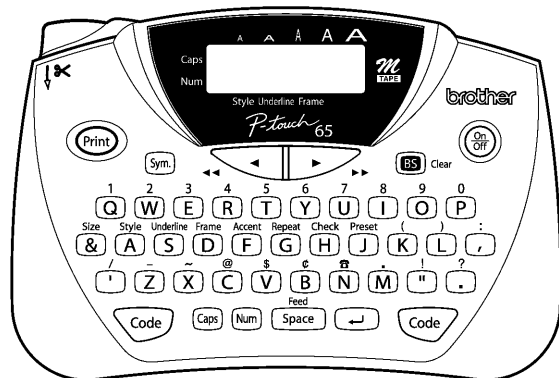

Figure 1.1-2 Key Arrangement
| (4) Key arrangement | See Figure 1.1-2. |
(See Figure 1.1-2.) |
| (3) Number of indicators | 11 (See Figure 1.1-2.) |